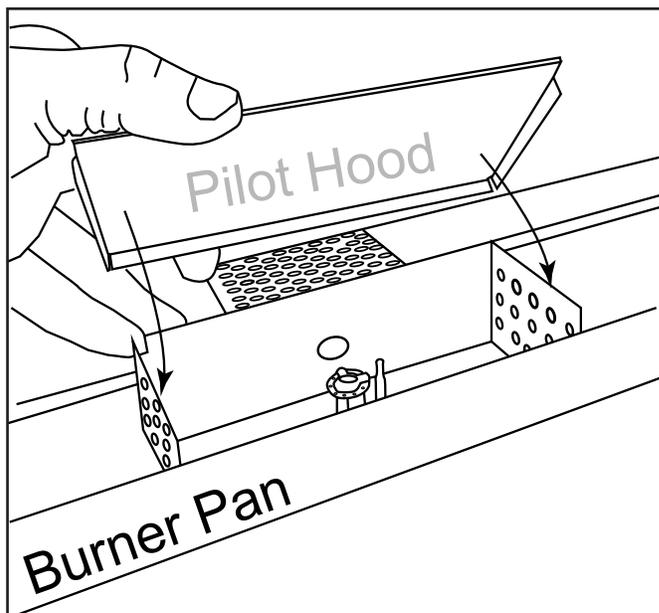

*Fig. 31 Installing ignition screen.*
**Step 21:** Install ignition screen (from parts box) overtop of the burner tube with the cutout area centered behind the pilot box ignition hole as shown in *Figure 31*. The ignition screen sits on top of the burner tube.
*Test fire the fireplace before installing media to ensure flame is passing through igniton hole as shown in Figure 31, page 23.* This is a good time to double check for any gas leaks or electrical connections before finalizing the installation by installing the glass media.